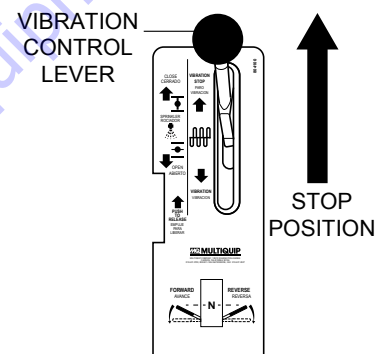

Figure 30. Vibratory Control Lever (OFF)
1. Place the vibratory control lever (Figure 30) on the roller to the **OFF** position (vibration stops).